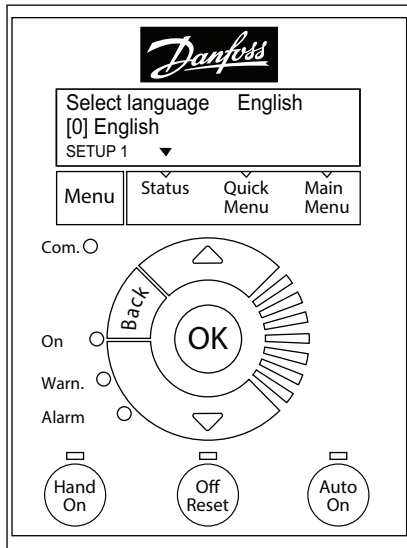

Fig. 87 — Keypad with Power Up Screen Displayed
1. At power-up: At the first power-up, the LCD displays the Select Language screen. The default setting is English. To change the language, press the **OK** key and use the ▲ (Up arrow) and ▼ (Down arrow) keys to scroll to the desired language. Then press **OK**. See Fig. 87.